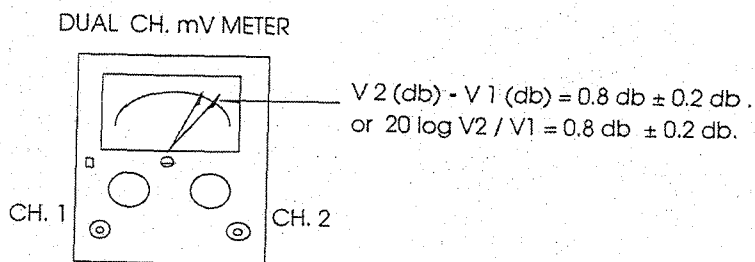

FIG. 3
- 6.8 - Adjust **VR 2** on the PCB-21-BCMA until the reading of CH. 2 is 0.6 to 1 db higher than the reading of CH.1 as shown in FIG. 3.